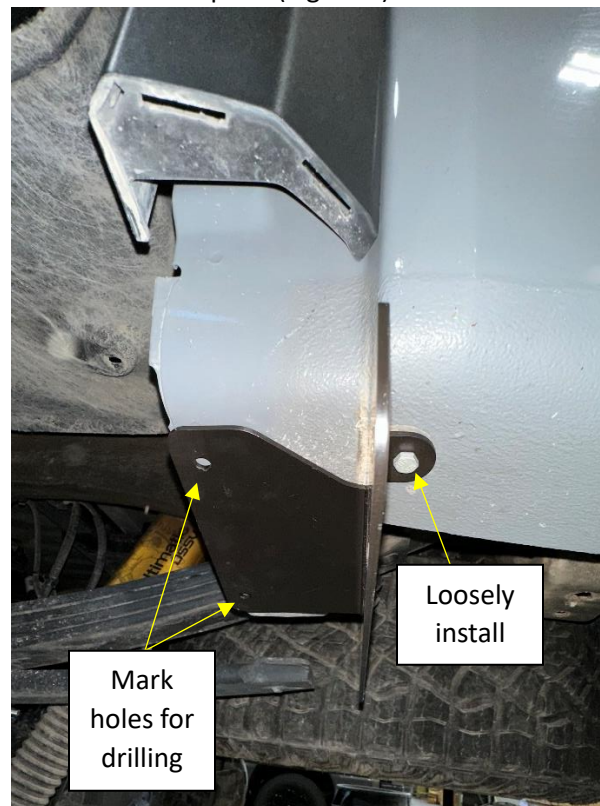

Figure 4
4. Loosely install the AEV splash guard bracket by inserting the provided M8 bolt through the square hole and finger tighten with the provided M8 nut (Figure 4).
- a. Once the AEV splash guard bracket is loosely installed and positioned, mark the 2 holes on the fender using the bracket as a template (Figure 4).